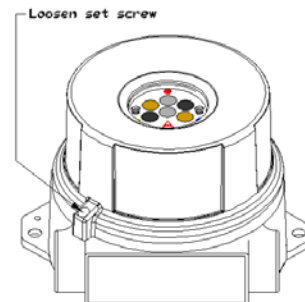

Figure 2-5
1. Loosen the set screw on the enclosure lid (see *Figure 2-5*).